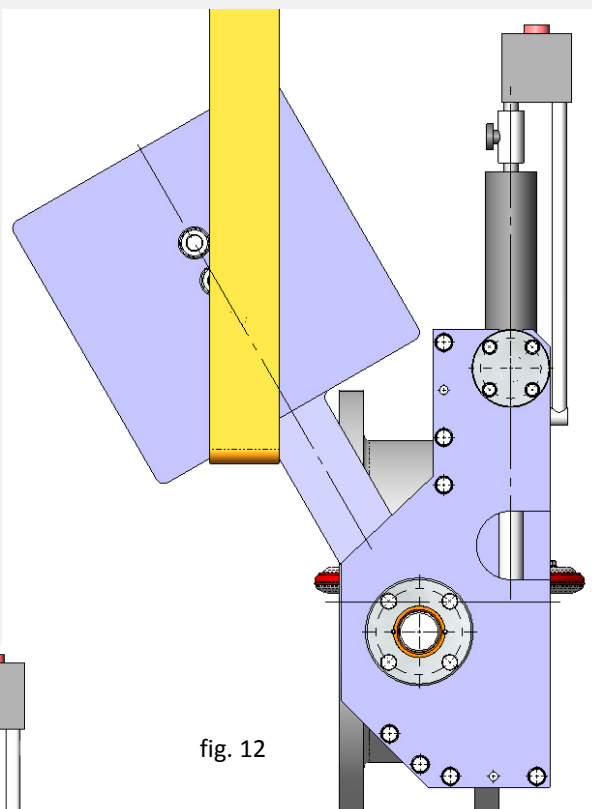

fig. 12
5. With the help of lifting equipment and a sling, attach the arm of the counterweight and raise until the disc is completely open (fig. 12).